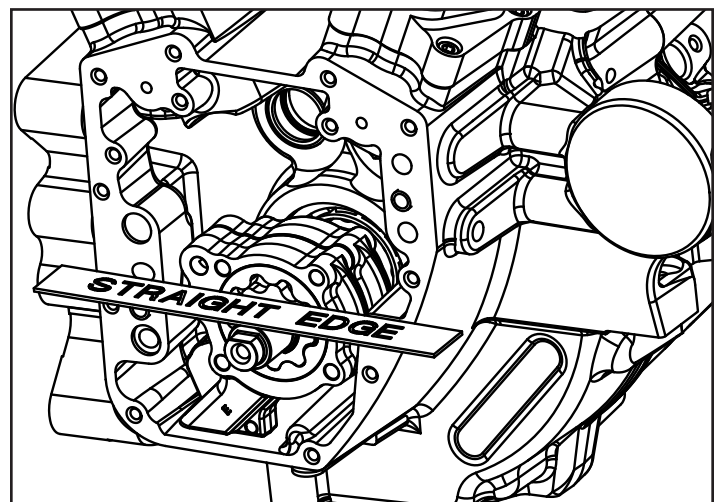

Figure 6
17. Place straight edge across front of cam chest and make sure the face of the pump does not protrude past the cam chest gasket surface. **Figure 6**